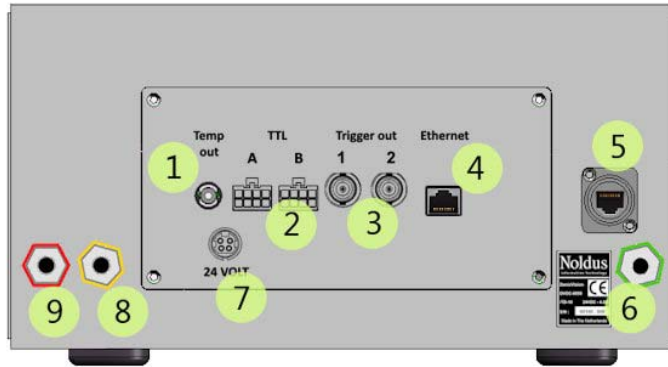

Figure 2 The back panel of DVOC-0050. See the text for explanation.
- Ethernet port connected to the **Ethernet** connector in DanioVision (number **4** in Figure 2): 192.168.20.1
- Ethernet port connected to the DanioVision camera (number **5** in Figure 2): 192.168.1.51